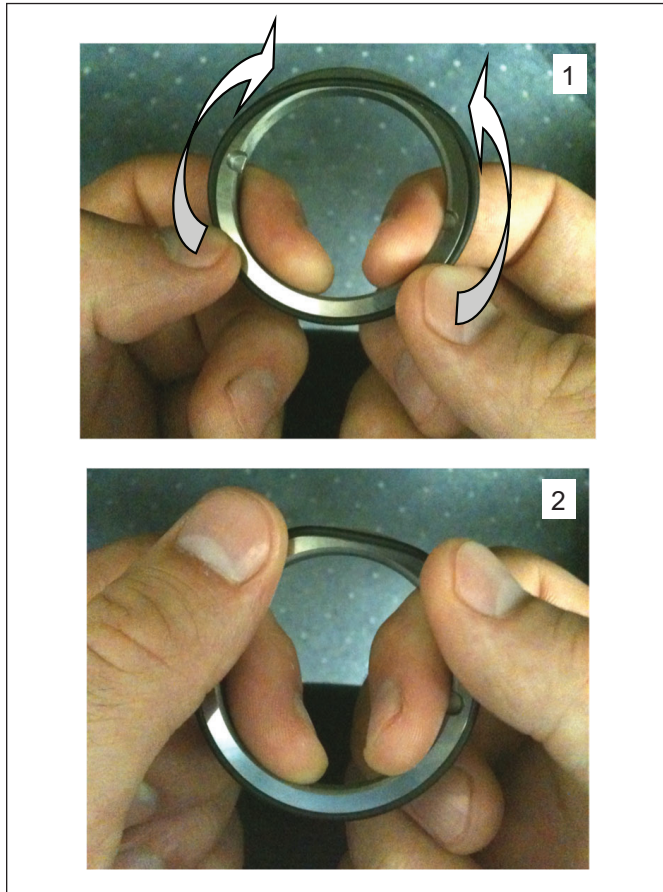

Figure 29. Installing the Rotating O-Ring
- Next install the rotating o-ring onto the rotating seal by stretching it (not rolling) onto the rotating seal (*Figure 29*).